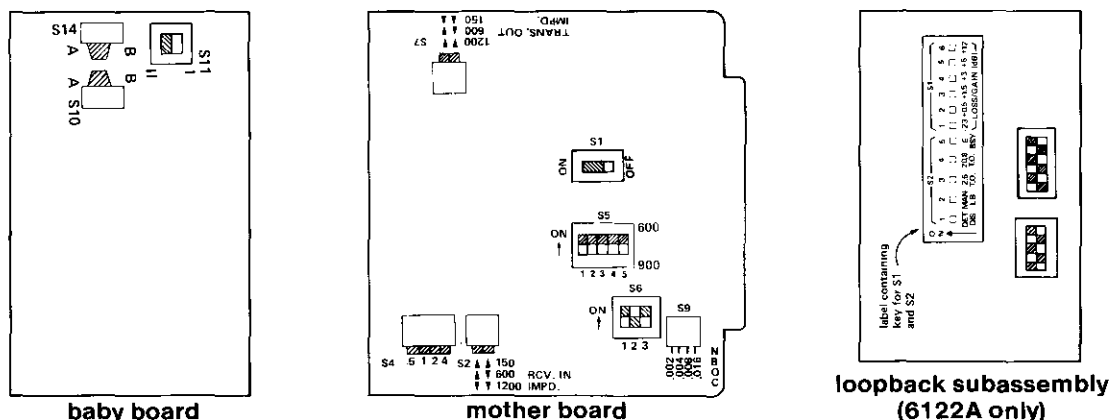

figure 9. 6122 and 6122A option switch locations
3.06 All options on the 6122 and 6122A modules are selected via slide or DIP switches whose locations on the modules' printed circuit boards are shown in figure 9. Table 5 summarizes these options and their switch settings, which are explained in detail below. Each module should be completely optioned and its optioning verified before alignment is attempted.